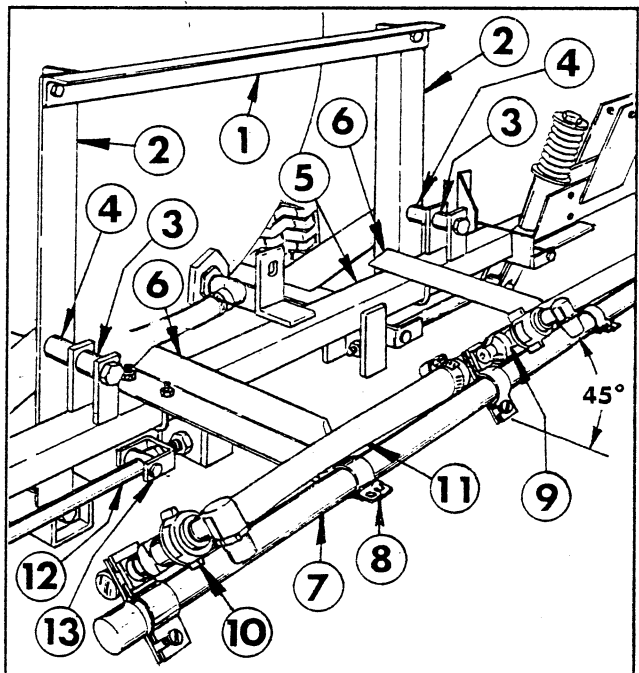
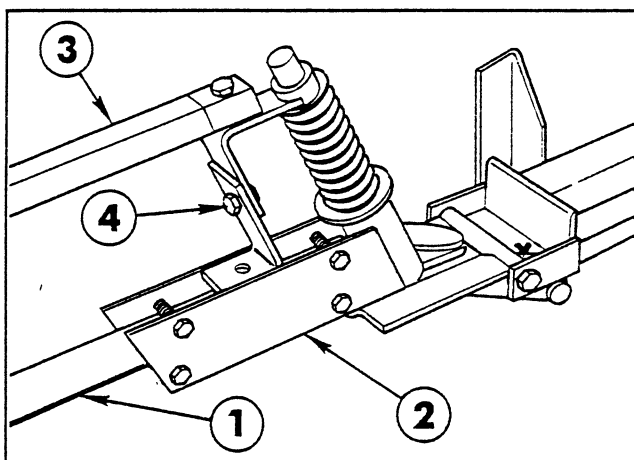

FIG. 10
FIG. 11
4. Position the Spacer Tubes between the Boom Mount uprights and the lugs on the Main Frame Tube. Use two 1/2" x 4" hex hd. cap screws and lock nuts to secure the Main Frame Tube to the uprights. See FIG. 10.
6. Position the two (2) Center Boom angles on the Main Frame and secure them to the Main Frame tube with two (2) square U-bolts, four (4) flat washers and hex nuts. See FIG. 10.
7. Center and attach the Center Boom Pipe to the two Center Boom Angles with two (2) clamps, 3/8" x 1" cap screws, flat washers and lock nuts.
8. Loosely attach the triple barb Nozzle Assembly in the approximate center of the Center Boom Pipe. For the most uniform spray coverage, position all Nozzle Assemblies at a 45° angle as shown in FIG. 10. Tighten clamp screw to secure the Nozzle to the Boom Pipe.
10. Attach the two Strut Assemblies to the two adjustable clevis' found on each side of the Main Frame tube with two (2) 1/2" x 2" clevis pins and two (2) 1/8" x 1" cotter pins.
11. Insert the plugged end of an Extension Boom Pipe into the Pivot Assembly and secure with four (4) 1/4" x 1-1/4" cap screws and lock nuts. See FIG. 11. Repeat on the opposite side to assemble the other Extension Boom.
15. Adjust the Booms to a level position by adjusting the jam nuts on the adjustable clevis assemblies (See FIG. 10) to the desired position, then tighten the end nuts against the Main Frame plate.